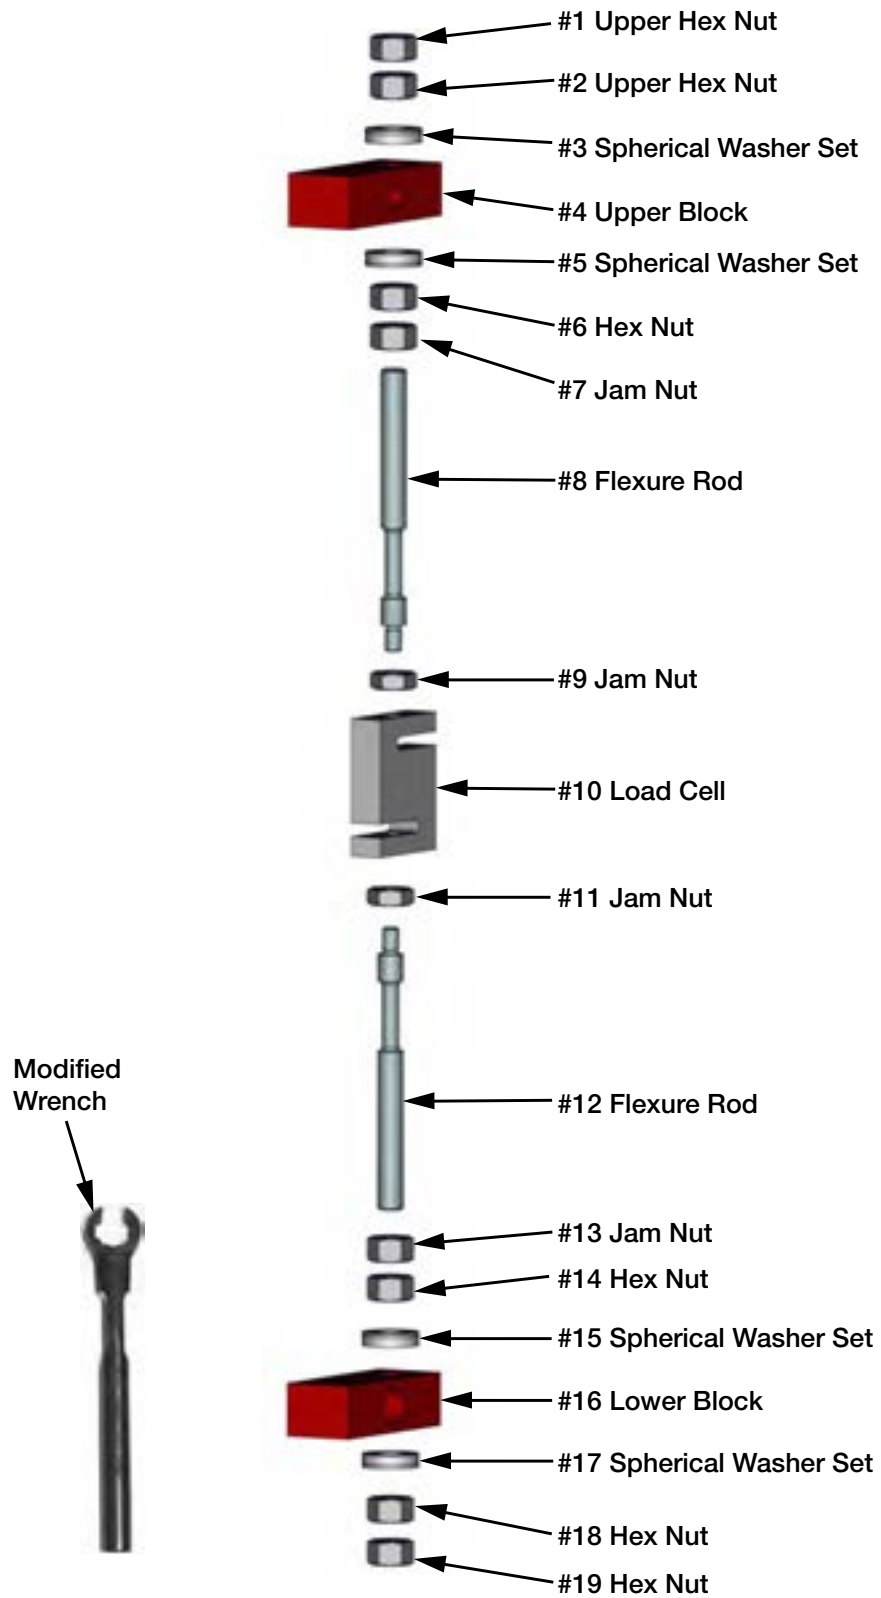

Figure 4-26. CLS-M Load Cell Assembly Parts Breakout
5. Loosen jam nut (#7) from the upper block using the special modified box wrench (PN 96196 - supplied with load cell replacement kit) and shown in Figure 4-26.
21. Insert the load cell and thread flexure rods into top and bottom of the load cell making sure the appropriate hex nuts, jam nuts, and spherical washers are in the correct order per Figure 4-26 on page 75.